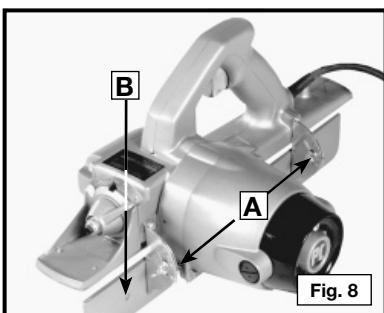
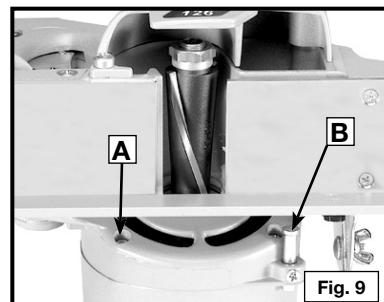

Fig. 8
Fig. 9
The plane may be quickly set for outside bevel cuts from 0 degrees to 15 degrees or inside bevel cuts from 0 degrees to 45 degrees. Make the bevel adjustment by loosening the two wing nuts (A) Fig. 8 on the apron hinges and tilting the apron (B) until the pointers on the hinges line up with the desired angle graduations. Tighten the wing nuts (A) securely. The beveled cuts are made the same as regular right-angle cuts. More than one pass may be necessary, depending on the width of the bevel. Keep the plane shoe and the apron pressed firmly against the work during the entire cut. Make each cut for the full length of the board.
The apron stop stud is located directly behind the front hinge of the apron (A) Fig. 9 and on the underside of the motor housing (B) Fig. 9, and is held in place by a screw. This stud is used to produce exact settings of the apron quickly for repeated cuts of the same angle. Select the required setting of the apron and lock it in place with the thumb screws (A) Fig. 8. With a screwdriver, turn the screw and release the stud. Move the stud until the head rests against the side of the apron (Fig. 9). Tighten the screw. After this procedure, the apron can be adjusted to smaller angles and quickly re-set to the original angle by simply moving it back against the apron stop stud.